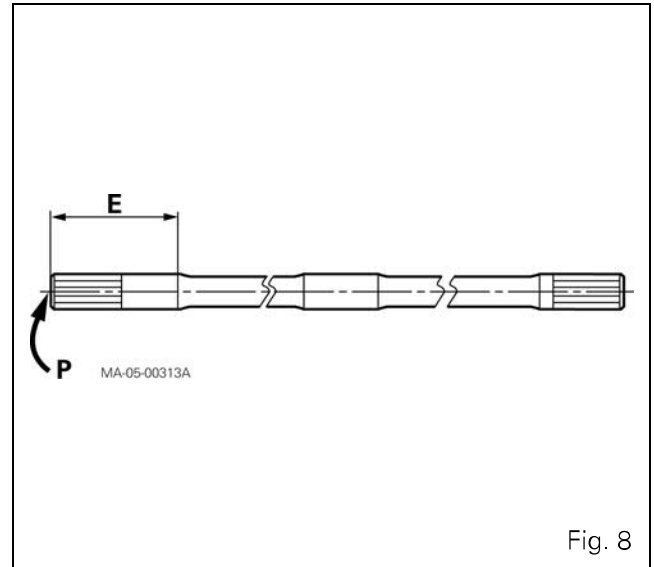

Fig. 8
26. Put the PTO shaft in the gearbox, with the longest end "E" (Fig. 8) or paint mark "P" directed towards the forward clutch of the power shuttle.